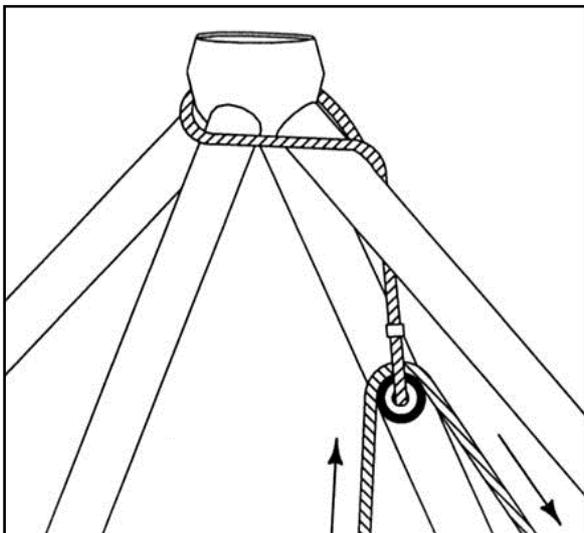
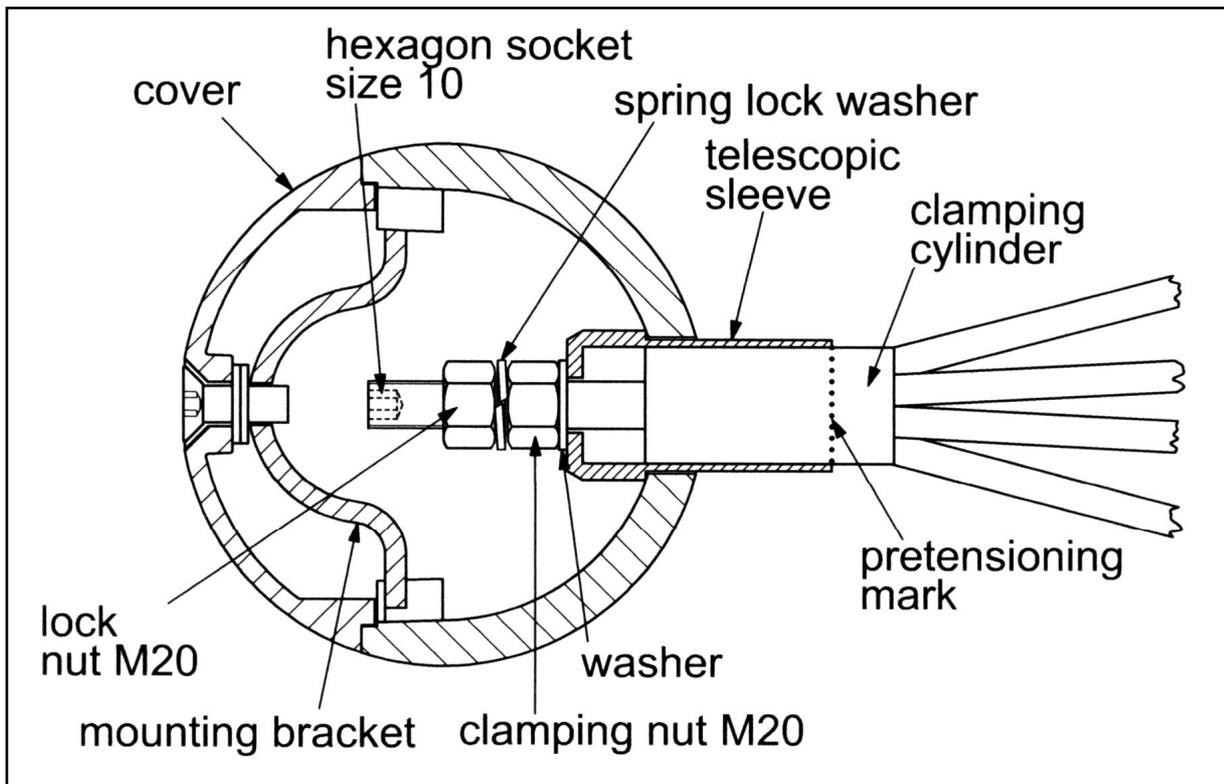

Figure 5
Figure 7
The marked vertex of the net (**K1**) is to be lifted, using the rope pulley, by means of the knotted rope as per **Figure 5** and fastened onto **connection joint K1** using the clamping nut M20, SW32. The clamping systems of the four connection joint points **K22** on **level 2** then follow. Push the clamping cylinder with the bolt M20 into the telescopic sleeve (**Figure 7**) and first of all, tighten it with the clamping nuts by only five turns to make for easier insertion into the spheres.
Now connect the tension points **K20** and **K23** at **level 1** in the same way like **K22**. Push the clamping cylinder with the bolt M20 into the telescopic sleeve (**Figure 7**) and first of all, tighten it with the clamping nuts by only five turns to make for easier insertion into the spheres.
The net **begins** to be tensioned on **joint K22** on **level 2** and then takes place, via the clamping nuts, using the SW32 special socket spanner which is supplied. It must be **tensioned up to the pretensioning mark (fig. 7)**. Tension is then created on joints **K20** and **K23** on **level 1** also to the pretensioning mark. The net finally has a good **uniform strong** tension.
After the tensioning the clamping nuts at all joints in level 1 and 2 (**K20**, **K22** and **K23**) are to lock with the supplied locking nut M20 SW32 including the spring lock washer. **When you tightened the lock nut, you can hold up the M20 bolt with an Allen key size 10 (figure 7)**.
Finally, the hollow spheres, which are still open, are to be sealed using the specially prepared sealing covers via a mounting bracket (**Figure 7**). Please fix all the covers that our logo is readable. Thank you.
- The first retensioning of the equipment must be carried out after it has been used for between 1 and 2 weeks. Retensioning is done using the clamping nuts M20 which are situated in the hollow spheres of the level 1 and 2 (**K19, K20 and K23**). After removing the cover, using a size 10 Allen key, the locking nut M20 SW32 is to loosen at first. The retensioning is carried out on clamping nut SW 32 **beyond the pretensioning mark**. All connection joints of levels 1 and 2 should be retensioned in a uniform fashion. After being tensioned, lock the clamping nuts with the locking nuts which you are removed beforehand (**Figure 7**). **Please note the right position of the spring lock washer between the two nuts. When you tightened the lock nut, you can hold up the M20 bolt with an Allen key size 10 (figure 7)**. Now the hollow spheres are locked with the prepared ball covers via the retaining bolt in the cover. Please fix all the covers that our logo is readable. Thank you.
Please note, that at all clamping points **the ropes are not distorted** when you tensioning the net. If necessary hold it firm with a practical tool. (**figure 7**).